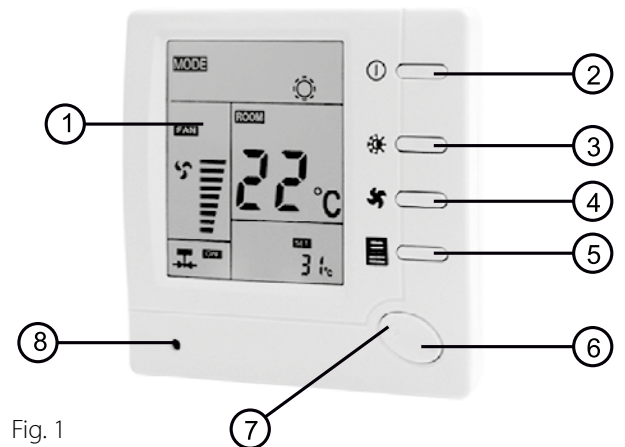
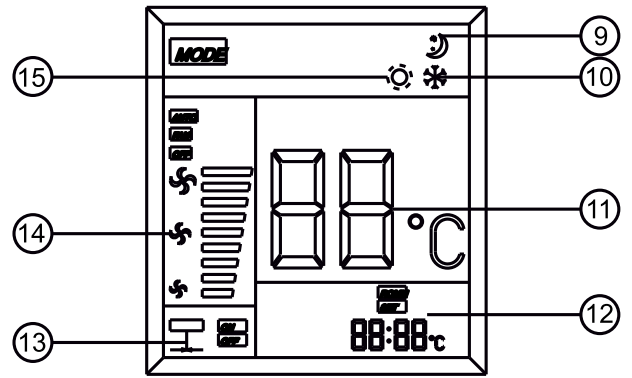

Fig. 1
Fig. 2
Display (Fig. 2):
Switch on the temperature controller by pressing the power button (2). Press the fan speed selection button. The display will show one of the characters (14 in Fig. 2) or AUTO. This means that the fan will rotate at HI (high), MED (medium), LOW or AUTO (automatic mode) speed. If AUTO mode is selected, the fan speed will vary according to the difference between the actual room temperature and the set temperature. If the room temperature is more than 3 degrees above the set temperature when cooling or more than 3 degrees below the set temperature when heating, the fan will run at its highest speed. If the room temperature is 2-3 degrees higher than the set temperature for cooling or 2-3 degrees lower than the set temperature for heating, the fan will run at medium speed. If the room temperature is 0-1 degrees above the set temperature when cooling or 0-2 degrees below the set temperature when heating, the fan will run at low speed.
Set the heating operation with the mode button (15 in Fig. 2). Press "+" to increase the control temperature value. If the room temperature is lower than the set temperature, the heating system will start. Press "-" to decrease the control temperature value. If the room temperature is higher than the set temperature, the heating system will stop.
Set the cooling operation with the mode button (10 in Fig. 2). Press "-" to decrease the control temperature value. If the room temperature is higher than the set temperature, the cooling system will start.
Press the button to switch to the night mode (5 in Fig. 1). The night mode symbol (9 in Fig.2) appears. This mode will be active for 8 hours and the temperature controller will control heating or cooling according to the schedule below. Press the night mode button again, the corresponding symbol will disappear, which means that the night mode is cancelled.
Setting the control modes allows you to set certain operating characteristics of the temperature controller for the automatic mode, according to your requirements. Switch off the temperature controller by pressing the power button then press and hold the night mode button (5, Fig.1) for at least 4 seconds until the display switches on. This means that you have entered the first menu control mode setting item. There are a total of 4 of these items, which are shown on the display accordingly. The relevant menu item is selected by pressing the button (5). In each menu item, use the "+" or "-" button to change the settings. To exit the menu and return to normal operation, switch off the temperature controller by pressing the power button and switch it on again.